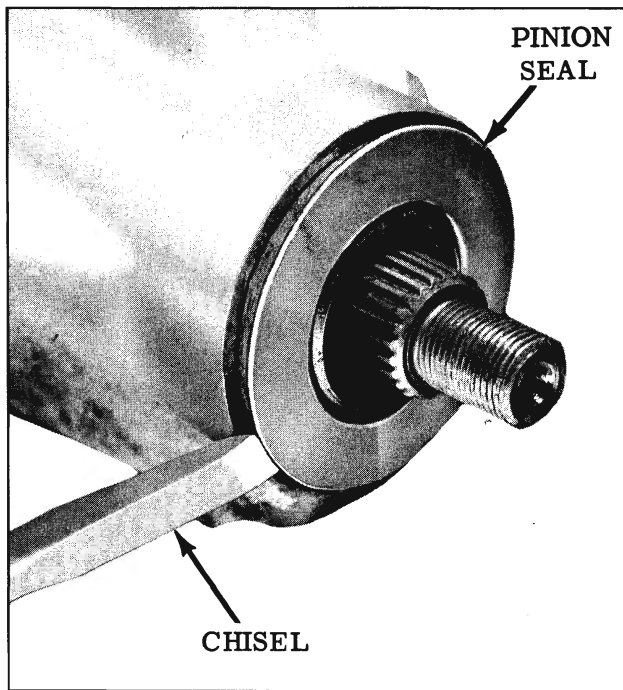

Fig. 6-105 Removing Pinion Seal
2. Remove seal with a chisel. (Fig. 6-105)